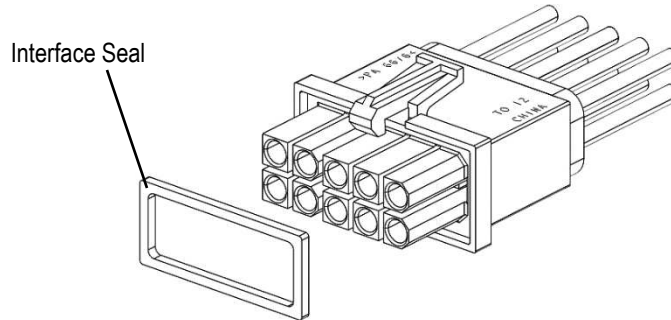
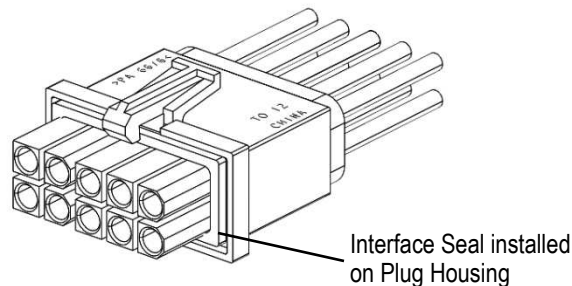

Figure 3
Figure 4
1. Assemble interface seal over contact silos of the plug housing as shown in Figure 3 until it rests against the mating face of the plug housing as shown in Figure 4.